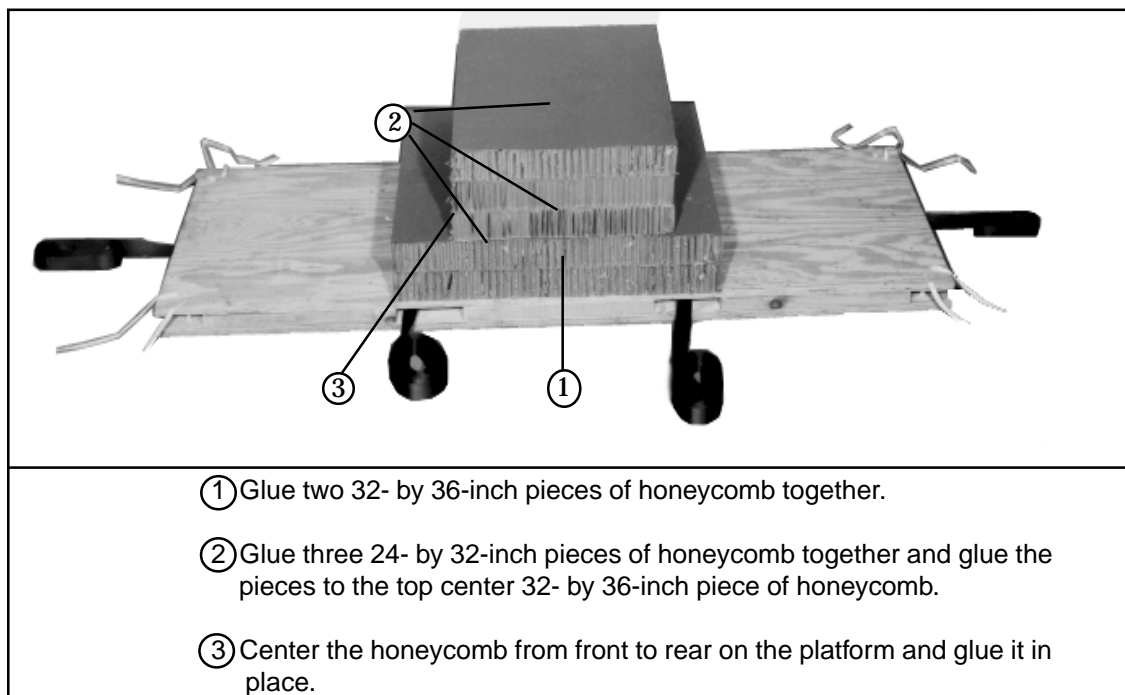

Figure 2-3. Honeycomb Stack Placed on Platform
- Build a honeycomb stack and position it on the platform as shown in Figure 2-3.